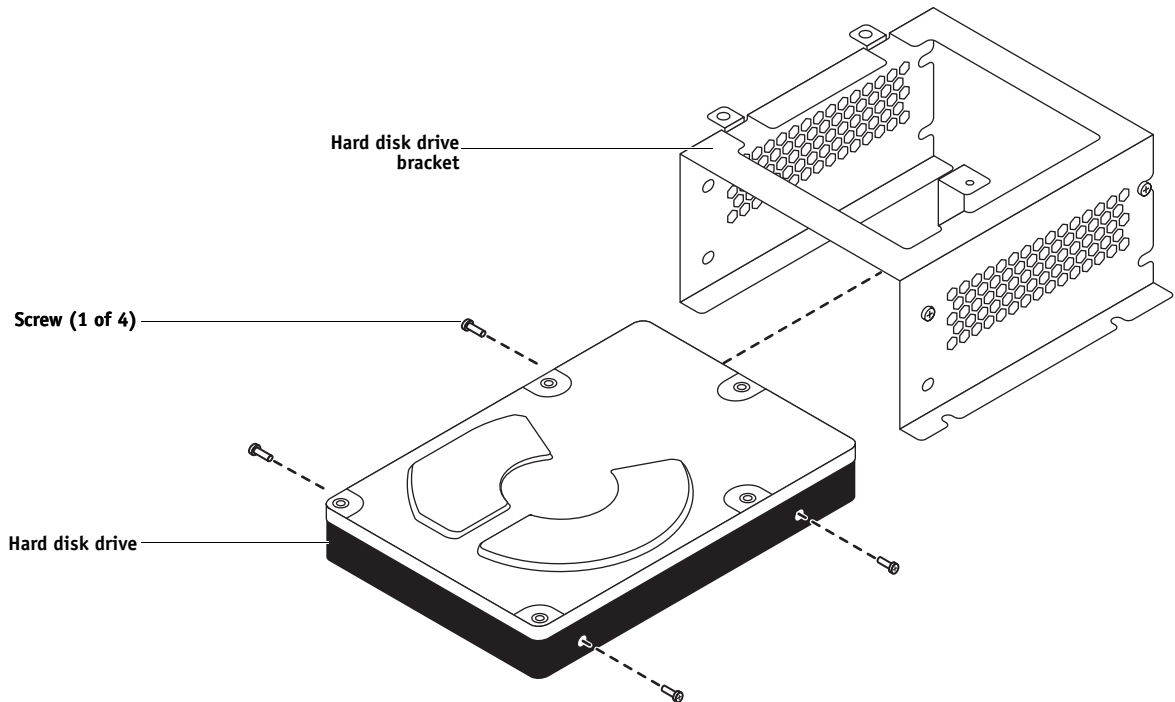

FIGURE 26: Removing/replacing the hard disk drive from the hard disk drive bracket
- 7 Remove the four screws that attach the hard disk drive to the hard disk drive bracket (see Figure 26 on page 56).
2 Position the hard disk drive inside the hard disk drive bracket and align the mounting holes on the hard disk drive with the four holes in the bracket (see Figure 26 on page 56).